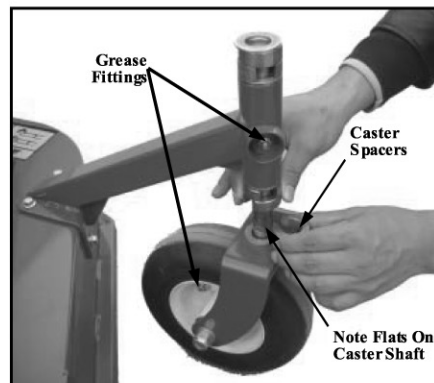

FIG 14 Repositioning Caster Spacers
1. Raise and block front of Mower Deck, remove linchpin and Flat Washer, FIG 14. To raise height of cut, lower Caster Wheel Yoke 3-4", lift off Spacer from top and place on the underside of the Caster Wheel Bracket.